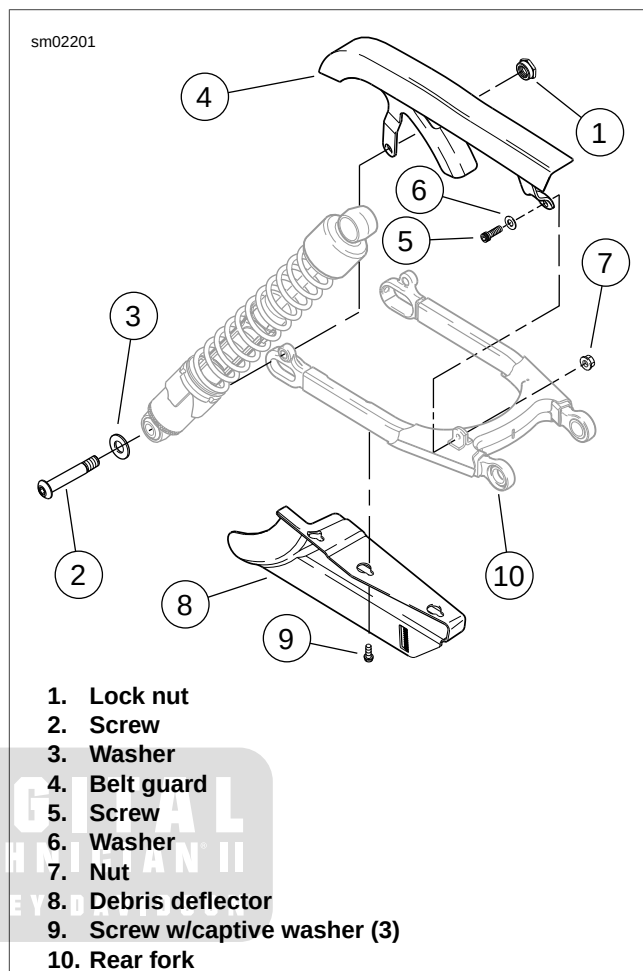

Figure 2-202. Belt Guard/Debris Deflector: XL Models
1. See Figure 2-202. Remove right side lower shock absorber mount lock nut (1). Pull shock absorber mounting screw (2) out slightly until it clears mounting hole in belt guard (4).
2. Remove screw (5), washer (6) and nut (7) securing front of belt guard to rear fork (10).
1. See Figure 2-202. Slide belt guard (4) into place on vehicle. Tab on front of belt guard mounts outboard of mounting bracket on rear fork.
2. Secure front of belt guard to rear fork (10) with screw (5), washer (6) and nut (7). Tighten to 120-180 **in-lbs** (13.6-20.4 Nm).
3. Push lower shock absorber mounting screw (2) through rear belt guard mounting hole. Thread lock nut (1) on screw. Tighten to 45-50 ft-lbs (61-68 Nm).
1. See Figure 2-202. Loosen, but do not remove, three screws with captive washers (9) securing debris deflector (8) to underside of rear fork (10).
1. See Figure 2-202. Position debris deflector (8) in place on underside of rear fork (10).
2. Fit large end of keyway slots in deflector over screw heads and captive washers (9). Slide deflector rearward to lock screws in slots. Tighten screws to 36-60 **in-lbs** (4.1-6.8 Nm).